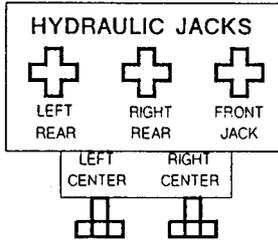

Figure 6) Leveling Controls
The sample truck is raised by five (5) hydraulic rams and is leveled using a portable hand level. The hydraulic controls associated with leveling are the 4-way control valve and the turn valves which control flow to each of the jacks (see Figure 6 below). When leveling the truck, lower the rams slowly in small increments so that the truck is lifted uniformly.